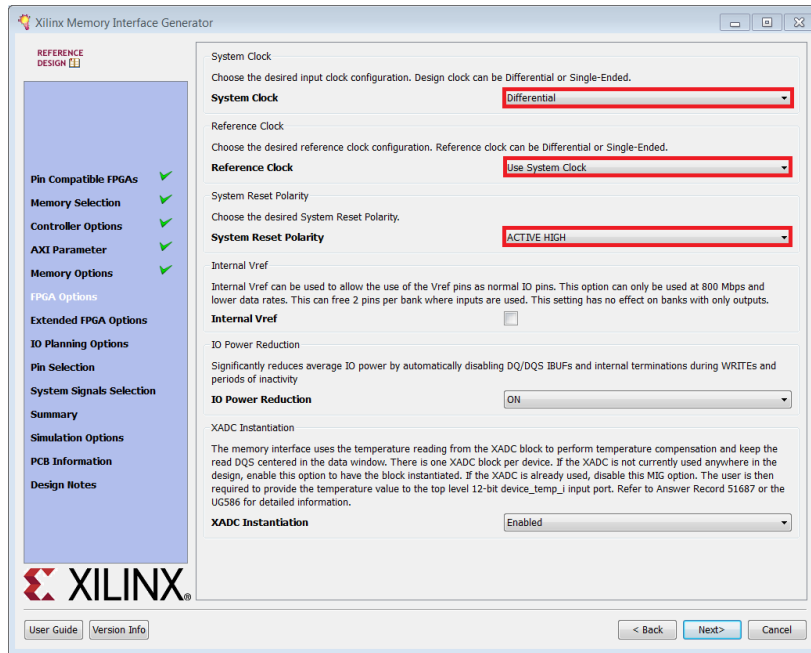

Figure 95: MIG Page: System Clock
- k. Change **System Reset Polarity** to **ACTIVE HIGH**, and click **Next** (Figure 95).